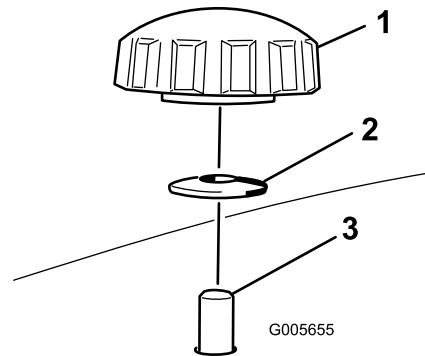

Figure 26
- 4. Remove the 2 knobs and curved washers that secure the right baffle to the mower (Figure 26).
- 5. Remove the right baffle and lower the grass deflector over the discharge opening (Figure 26 and Figure 27).
(cupped side facing the mower) as shown in Figure 26 and Figure 27.